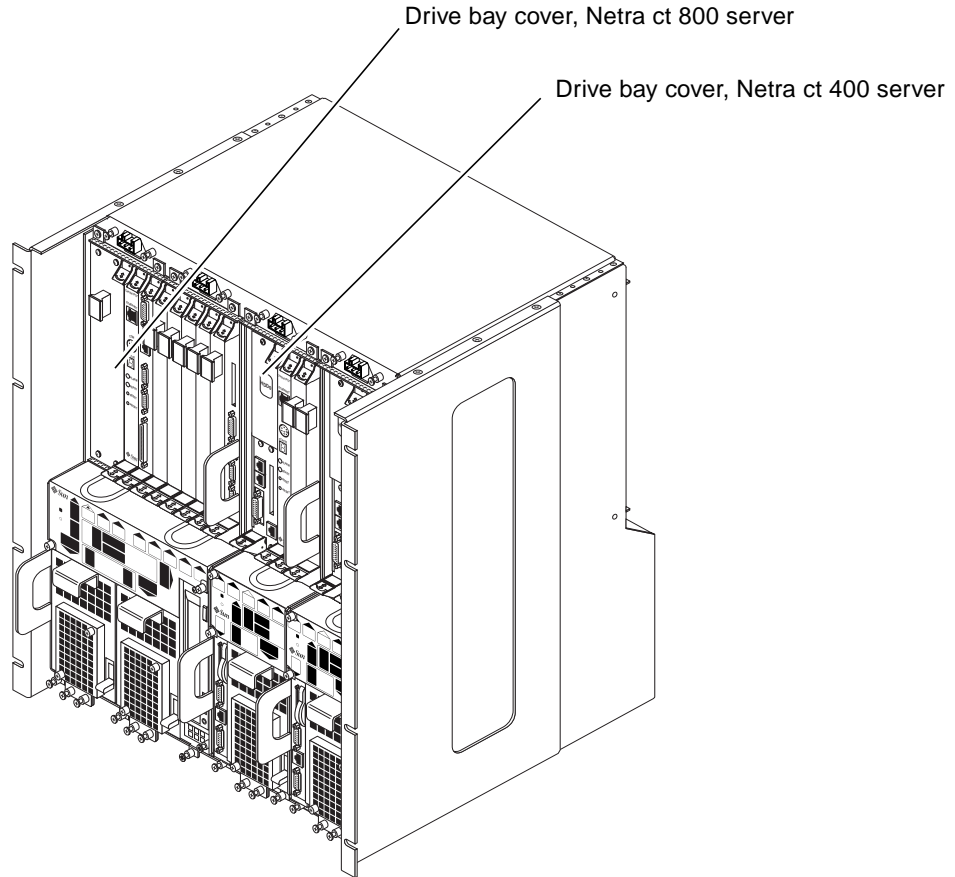

FIGURE 11-1 Drive Bay Cover Locations
11. **Secure the drive bay cover over the drive bays (FIGURE 11-1 on page 11-3).**
2. **Remove the drive bay cover (FIGURE 11-1 on page 11-3).**